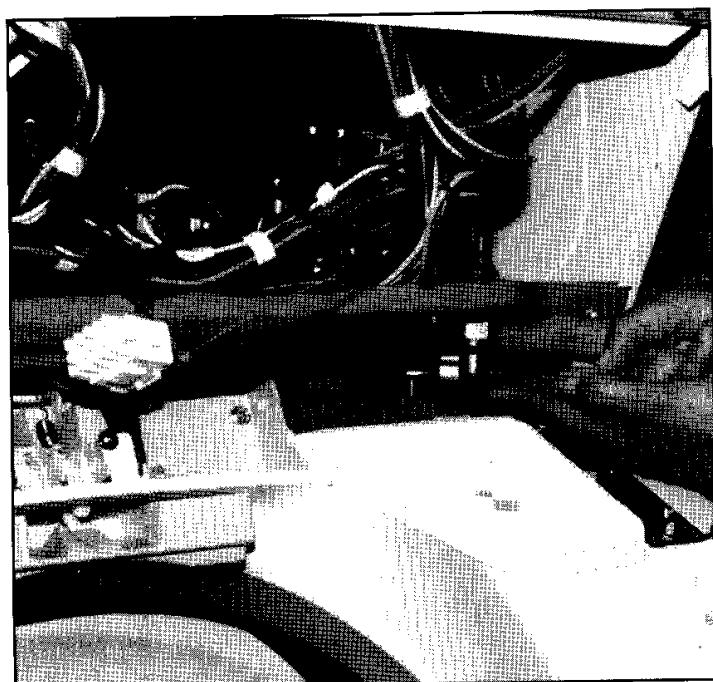
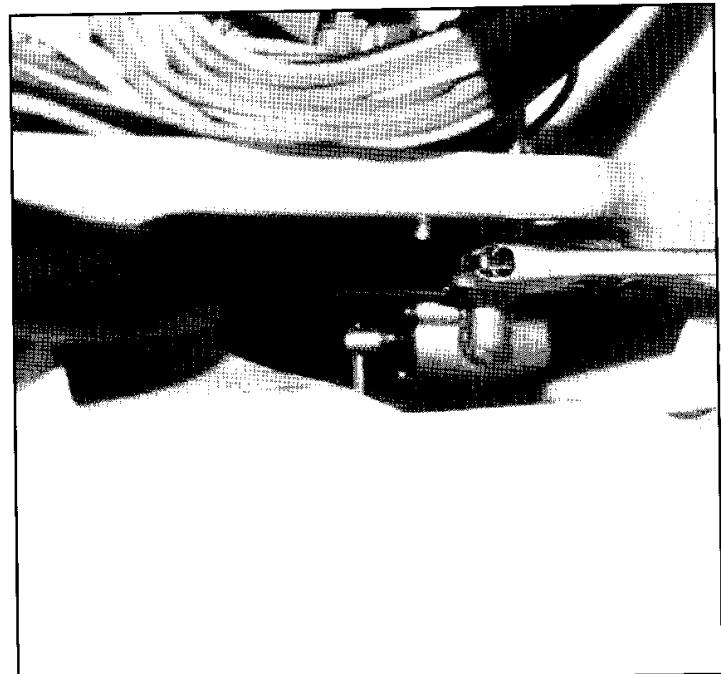

Figure 40
Figure 41
17. Raise gas pipe with shut off valve up and secure to gas valve union. (See figure 40.) Tighten fitting with a crescent wrench being careful not to over tighten. (See figure 41.)